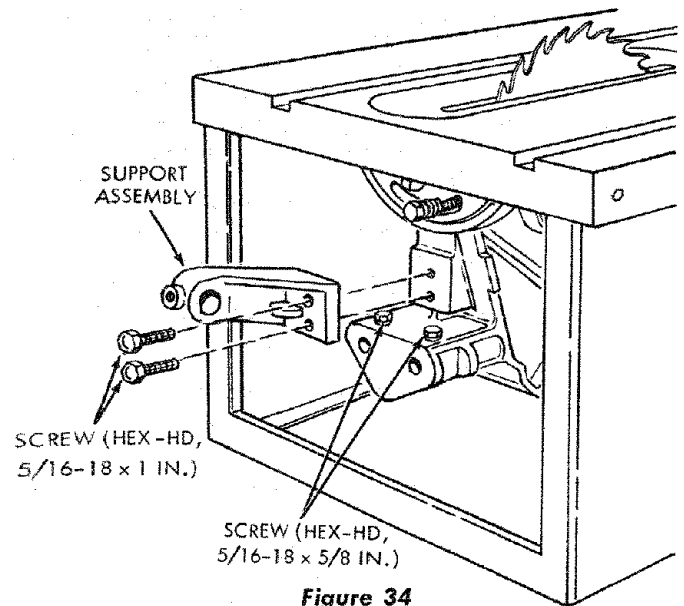
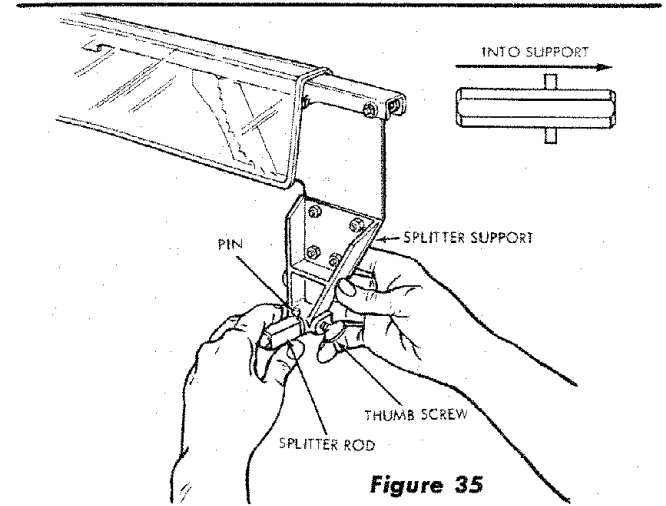

Figure 34
Figure 35
- (1) Install the two 5/16-18 x 5/8-inch, hex-head screws loosely in holes at rear of saw cradle as these screws cannot be installed after attaching the splitter blade bracket. (See figure 34.) These are the screws that secure the motor support in the cradle.
- (2) Install the splitter blade bracket with two 5/16-18 x 1 inch hex-head screws. Tighten screws finger tight at this time.
- (3) Refer to figure 35 and hold the splitter rod to the left of splitter support. Rotate the splitter rod so the "flat" on the rod is toward the operator. Then slide the splitter rod into the splitter support from the left until the pin (through the rod) bottoms in the slots in splitter support. (See figure 35.) Tighten the thumb screw firmly against the "flat" of splitter rod.
NOTE: After the splitter blade is properly aligned, always remove the guard by loosening the thumb screw (figure 35) and sliding the assembly off the splitter rod. This will avoid upsetting any of the alignment adjustments, as the pin in the splitter rod will serve as a "stop" when the guard is installed.